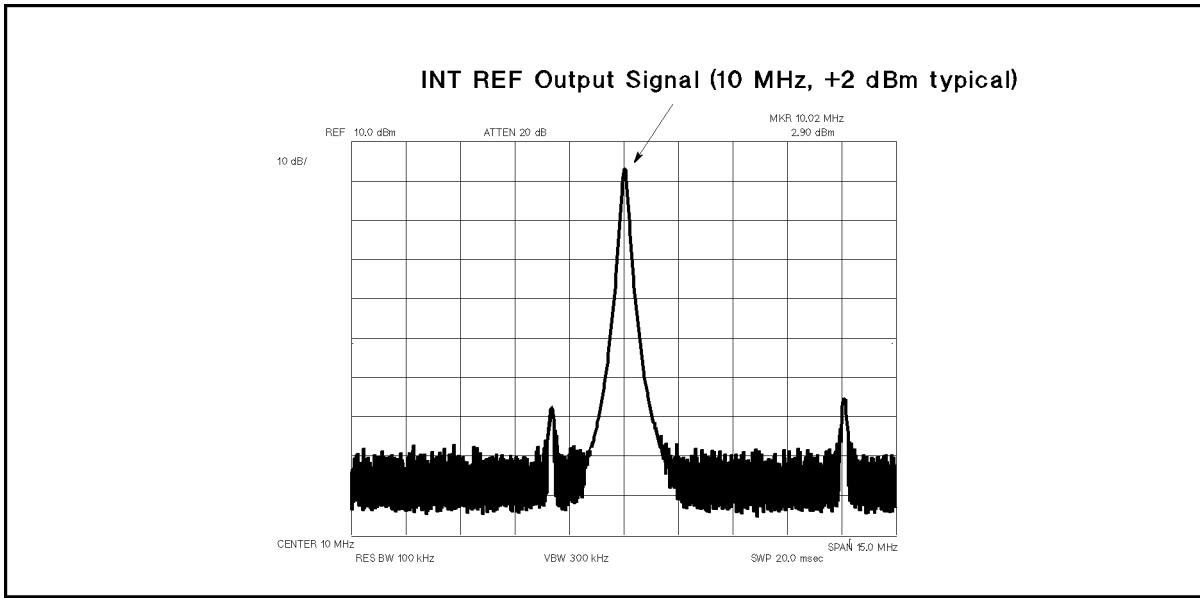

Figure 7-3. Typical INT REF Signal
f. Check that the frequency is approximately 10 MHz and the level is $+2 \text{ dBm} \pm 4 \text{ dB}$. The INT REF signal should be as shown in Figure 7-3.